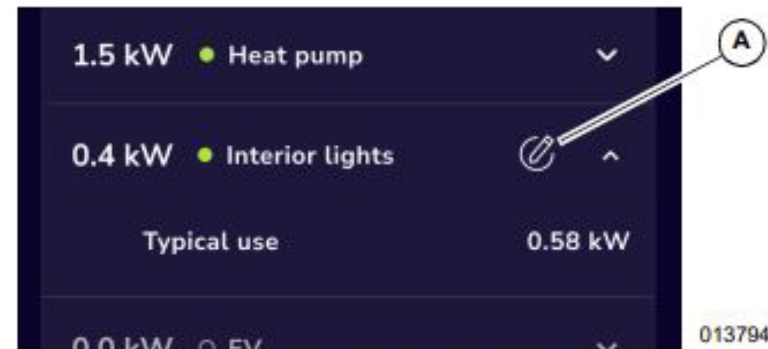

**Figure 3-5. Circuit Control Panel Edit Icon**
Loads wired through the PWRmanager can be controlled in the PWRview app. Tap on the "circuits" icon in the navigation bar to see the list of loads. Tap on a circuit bar to see more detail about it. When the circuit bar is expanded, the edit icon is exposed (see **Figure 3-5**) (A). Tap on that to make changes to the circuit.